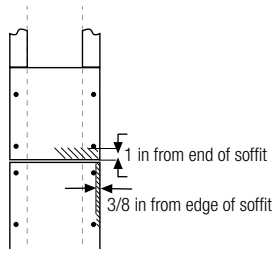

Figure 4
- Position fasteners 3/8 in from panel edges and no closer than 2 in away from corners when using soffit greater than 12 in wide (fig. 4) and no closer than 1 in away from corners when using soffit that is less than or equal to 12 in wide (fig. 3).